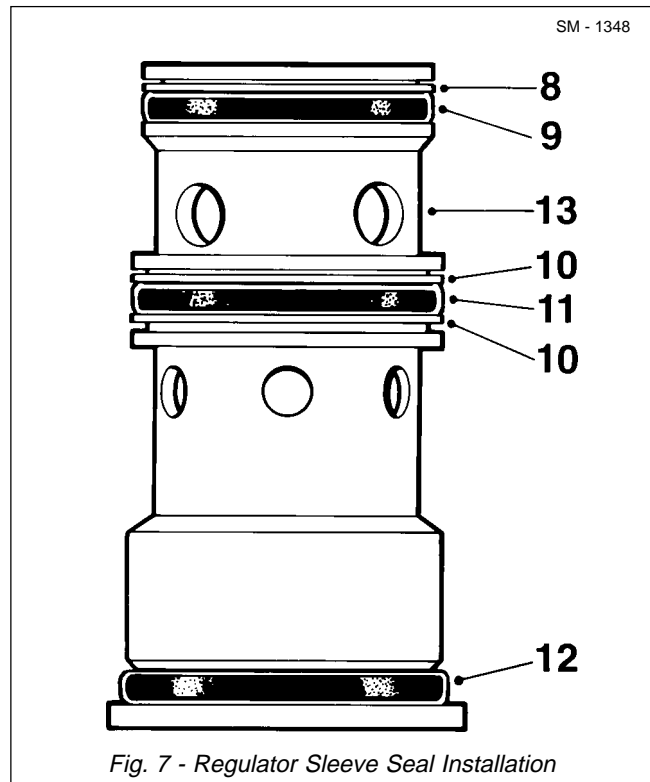

Fig. 7 - Regulator Sleeve Seal Installation
1. Install 'O' ring (9) onto the smallest groove (on the top) of regulator sleeve (13). Install 'O' ring (11) onto the middle groove of regulator sleeve (13). Install 'O' ring (12) onto the largest groove (on the bottom) of regulator sleeve (13). See Fig. 7.
2. Install backup ring (10) onto each side of 'O' ring (11) located in the middle of regulator sleeve (13). See Fig. 7.
3. Install backup ring (8) behind 'O' ring (9) located at the top end of regulator sleeve (13). 'O' ring (9) is the smallest of the three 'O' rings. Position backup ring (8) so that it is next to the top of regulator sleeve (13). The top of regulator sleeve (13) is the end with the smallest OD. See Fig. 7.